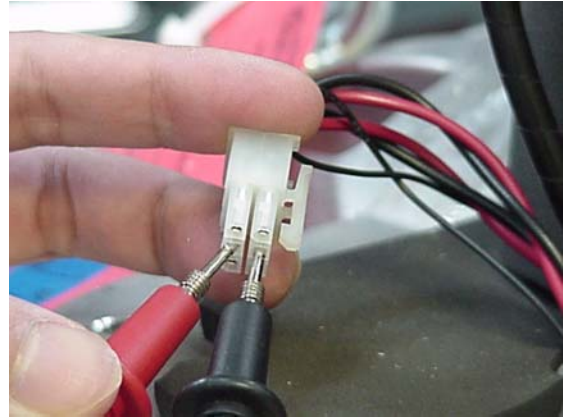

Figure 4-48 DC-DC Converter 24V Load Resistance Measurement
6. Insert the meter probes in the middle row of the 24V cable connector, as shown in Figure 4-48. Record the